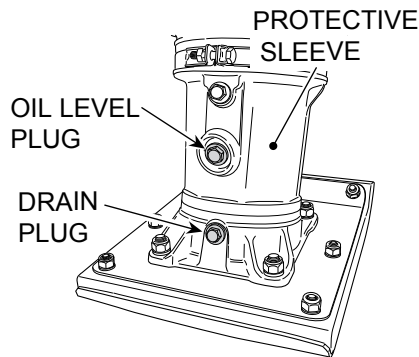

Figure 3. Oil Check
1. Check the oil level through the oil gauge on the protective sleeve (Figure 3) at the right side of the tamper foot.